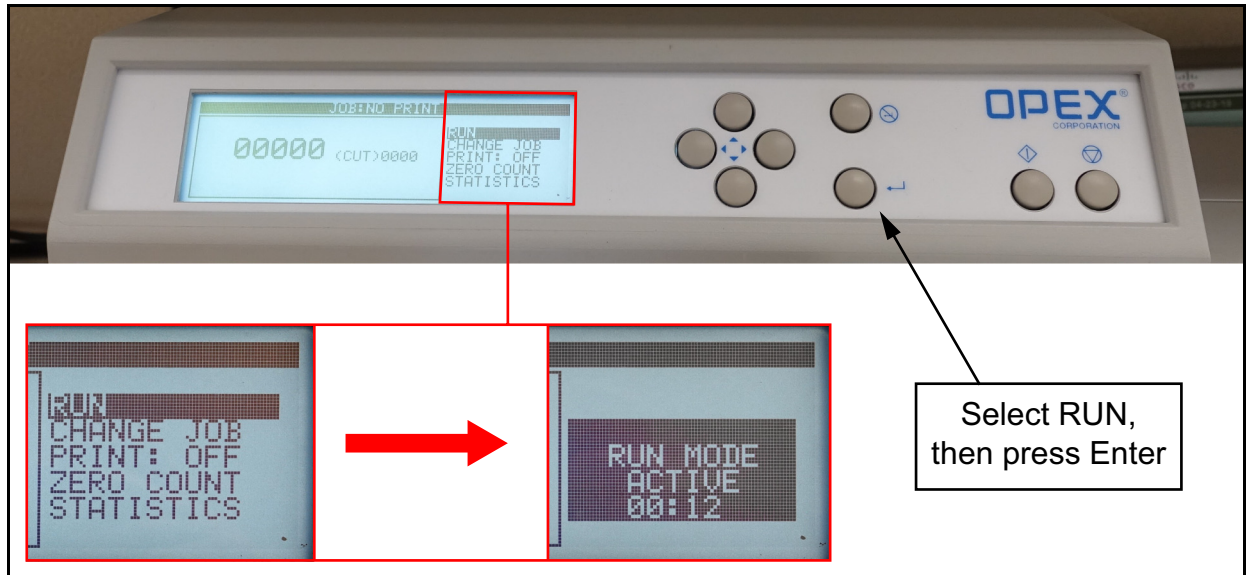

Figure 3-12: Starting the OM410
9. Once ready to begin, use the arrow buttons to highlight **Run**, and then press **Enter** to start the OM410 (Figure 3-12). The screen will display “RUN MODE ACTIVE” and elapsed run time.